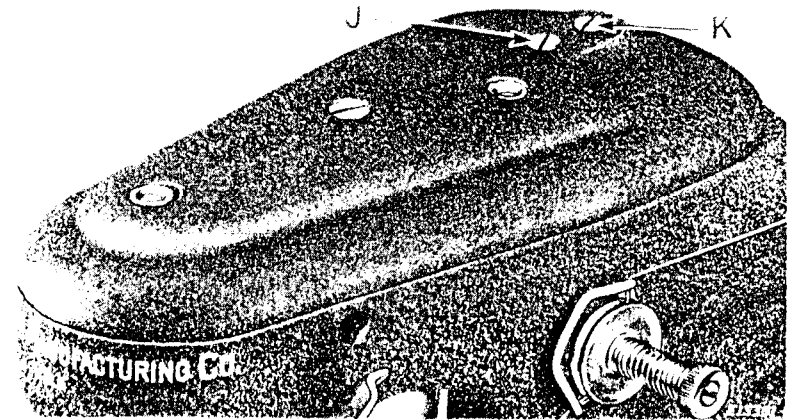

Fig. 8. Adjustment for Opening of Feeding Cups
The amount of opening between the feeding cups is controlled by the two screws (J and K, Fig. 8) at the top of the machine. The rear screw (K) controls the maximum amount of opening, which